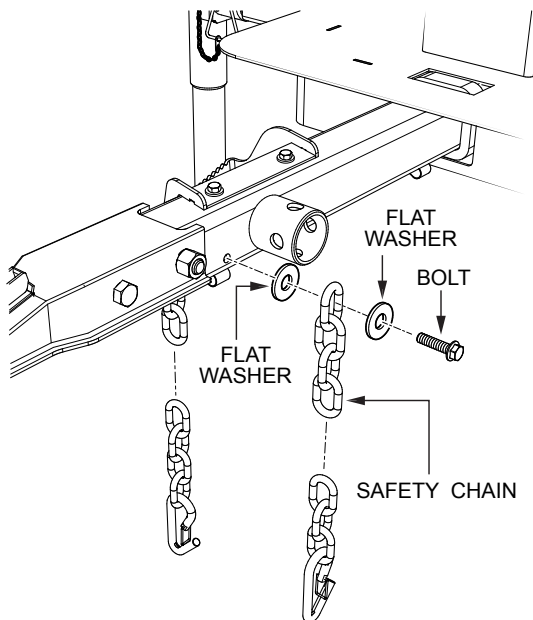

**Figure 12. Attaching Tail Light Harness**
1. Route the tail light harness through both of the 1/2" clamps as shown in Figure 12.